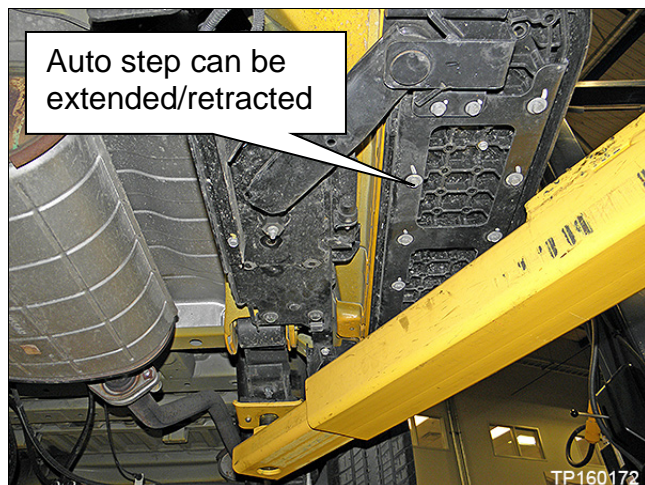

Figure 2
**NOTE:** Make sure the lift points are positioned so the auto step can be manually extended and retracted (Figure 2).